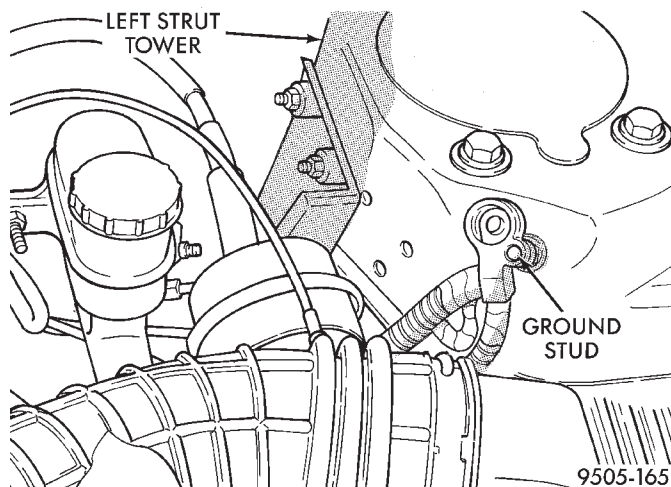

**Fig. 11 Correctly Isolated Remote Ground Cable**
(2) Correctly isolate remote ground cable when servicing vehicle by installing the ground cable insulator on the strut tower ground stud as shown (Fig. 11). **This will prevent accidental grounding of the remote ground cable.**